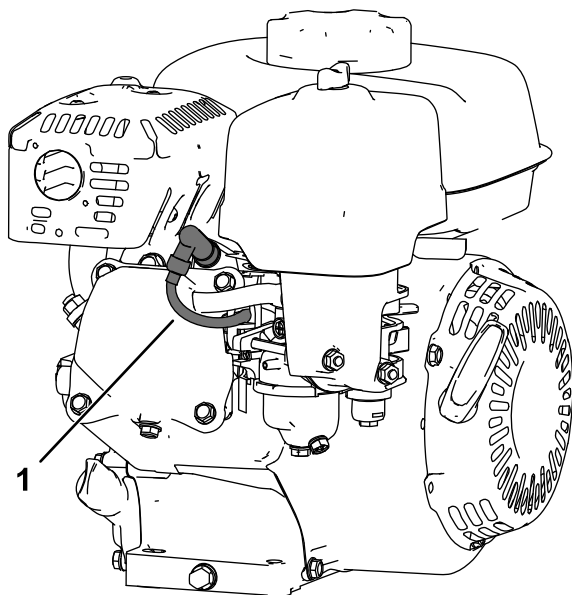

Figure 21
5. Disconnect the spark-plug wire (Figure 21).